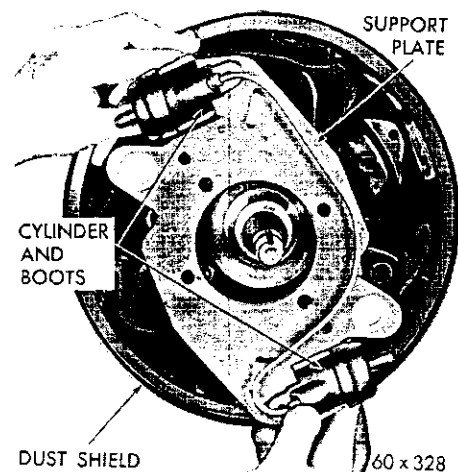

Fig. 14—Removing the Front Support Plate
(2) Remove the four retaining nuts attaching the support plates and dust shield to the steering knuckle.
(3) Disconnect the flexible brake hose from the frame bracket.
(4) Remove the four bolts that attach the brake assembly to the steering knuckle. **Note the location of the bolts and the size. Three different lengths are used.**
(5) Remove the brake assembly, as shown in Figure 14.